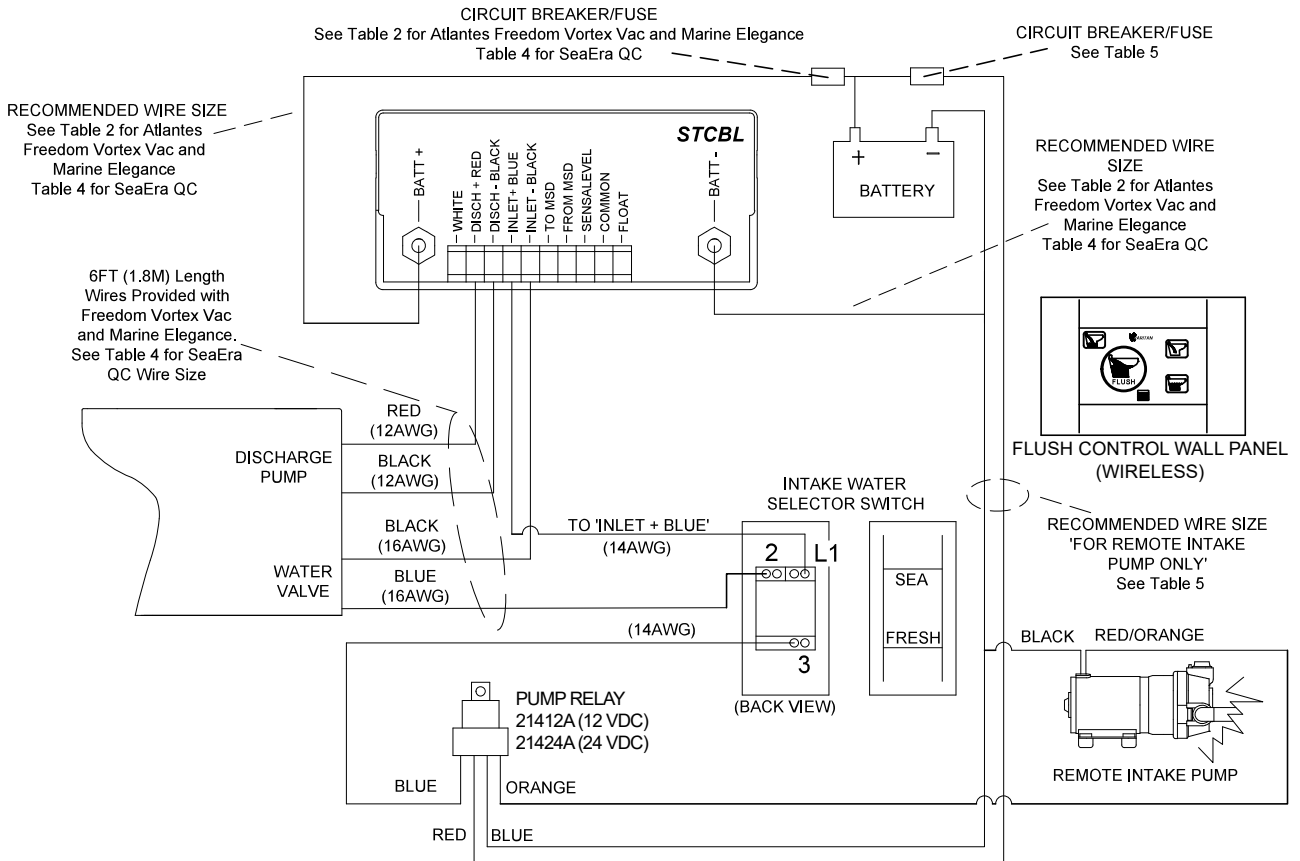

FIG 7
- To start Electroscan, PurasanEX (PSTEX) or PurasanEX2 (PSTEX2) from Bluetooth Smart Toilet Control (STCBL), wire per FIG 7.